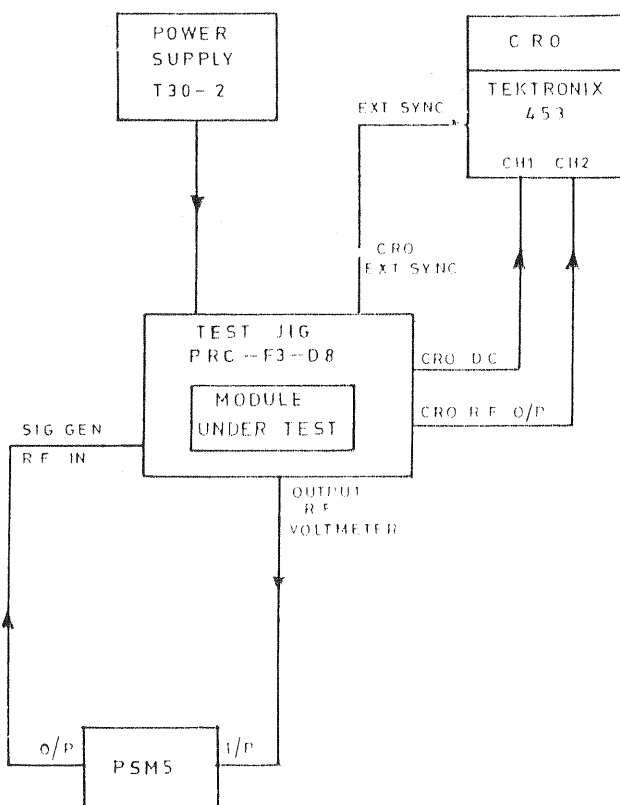

FIG 15 — SYNTHESIZER GATING BOARD 10-6CB1 EQUIPMENT SET UP
**73. Through Gate Signal Attenuation (See Fig 15).**
**75. Test of Pulse Output and Gate Switching (See Fig 15). Set the CRO as follows:**